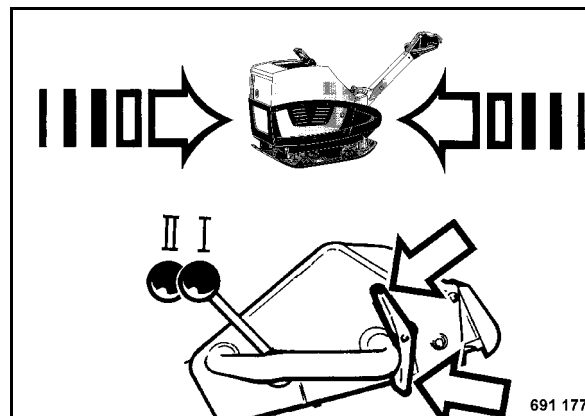

Fig. 38
- Operate the travel lever (tip switch) (Fig. 38), until the vibratory plate vibrates on the spot.